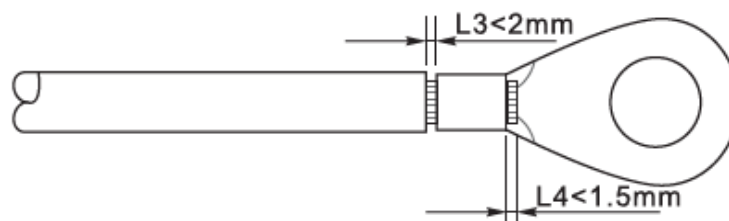

Figure 10 – Preparing the ground cable (2)
1) Insert the exposed wires into the OT terminal and crimp them using a crimping tool, as shown in Figure 10.